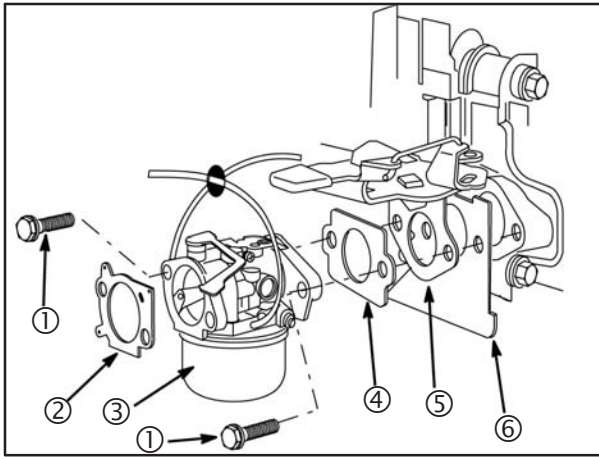

**Fig. 126 – Assemble Carburetor**
2. Insert brake shoe (Figure 126) ⑥ to port side tilt bracket ⑦.
3. Locate reverse hook ⑧ to port side tilt bracket with pin ⑨.
4. Place the tilt bracket with the reverse hook onto the midsection. Align the bushings already in position on the mid section (Figure 125) with the grooves in the tilt brackets (Figure 126) ⑤.